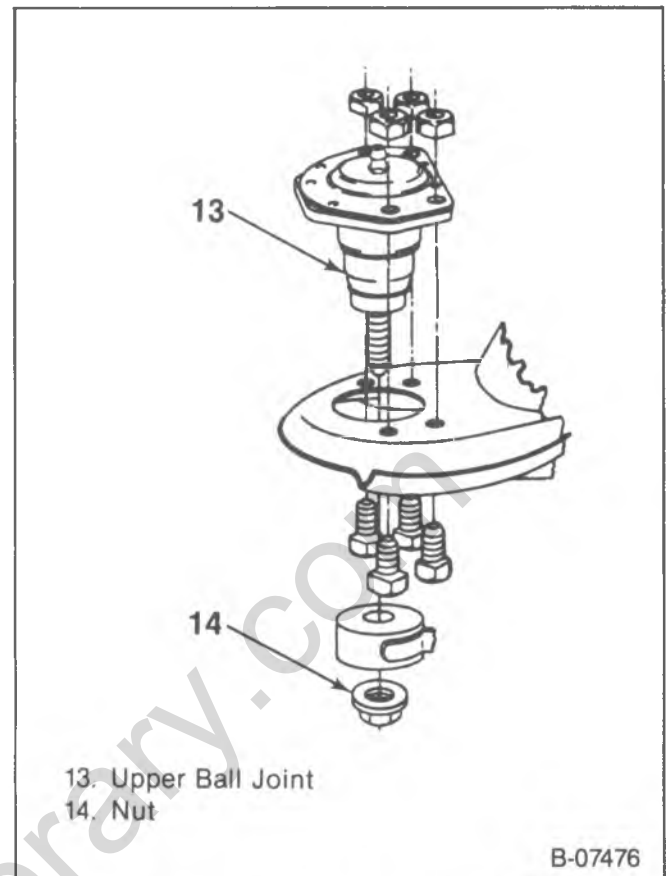

Figure 21—Installing the Upper Ball Joint
1. Upper ball joint (13) into the upper control arm (28).
- Position into the upper control arm and install four attaching bolts and nuts (A) (figure 21).
- Nuts (A) to 25 N·m (18 ft. lbs.).
2. Upper ball joint to the steering knuckle (31).
- Nut (14).
- Nut (14) to 68 N·m (50 ft. lbs.).
- Nut (14) to 122 N·m (90 ft. lbs.).